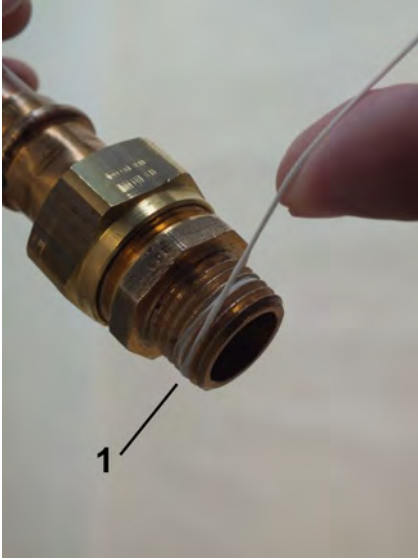

Fig. 9: Apply sealing thread
2.  Apply sealing thread (Fig. 9/1) to the napped area in the thread direction. Observe the quantity recommended by the sealant manufacturer